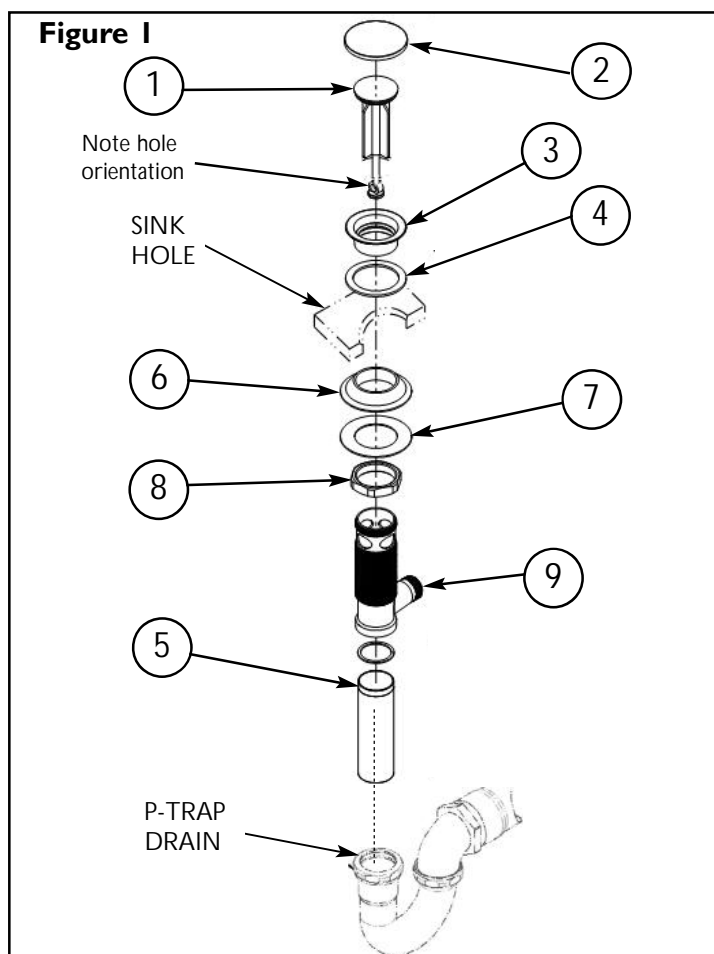

Figure 2
- Place PLUNGER ASSY(1), oriented as shown, into drain FLANGE (3). Insert pop-up ROD (10) through spout and secure to STRAP (16), approximately 1" from end of ROD (10), with SCREW (17). Insert ball ROD (12) into the drain's side port opening and connect it with the bottom hole of PLUNGER ASSY (1), secure with ball rod NUT (14). Adjust the height of the drain cap of PLUNGER ASSY (1) through elevation holes in STRAP (16). Use CLIP (15) to secure ball ROD (12) to STRAP (16). Adjust ball ROD (12) and pop-up ROD (10) adjusting via the elevation of the STRAP (16) so drain will open and close properly. **See Figure 2.**